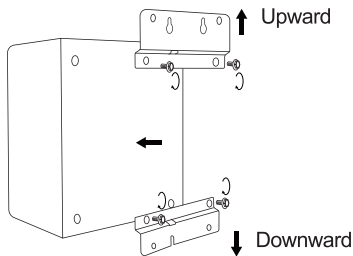

Figure 2
3. Unscrew the top and bottom screws on the back of the transformer, install the mounting brackets and tighten the screws again. Note: Pay attention to the right direction of the two mounting brackets when installing. (Figure 2)